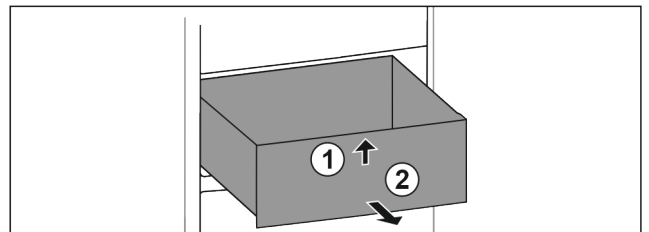

Fig. 134
- Lift up drawer at the front. Fig. 134 (1)
- Remove drawer to the front. Fig. 134 (2)